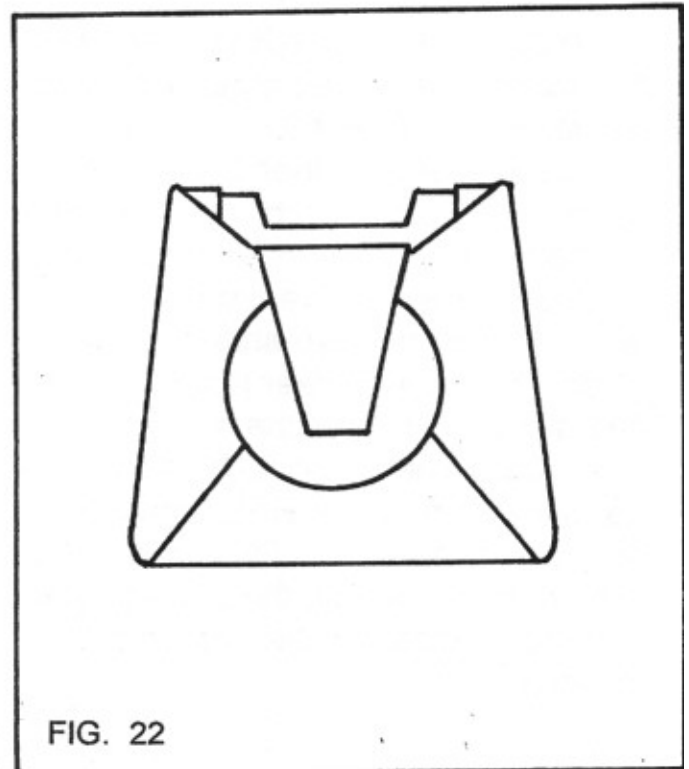

FIG. 22
14) Close the reserve pin cover, routing the RSL out the upper left corner. Any slack in the RSL may now be stowed by tucking it down into the top of the reserve container or by tucking it back under the reserve top flap. The reserve container should now resemble FIG. 22.